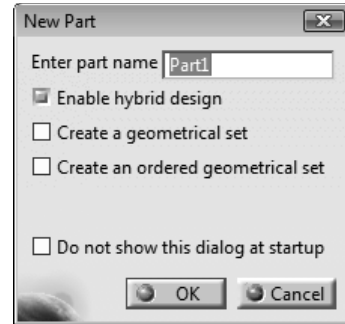

Figure 2-34 The **New Part** dialog box
2. Choose **Close** from the **File** menu to close the **Product1** file. Next, choose **Start > Mechanical Design > Part Design** from the menu bar; the **New Part** dialog box is displayed, as shown in Figure 2-34.